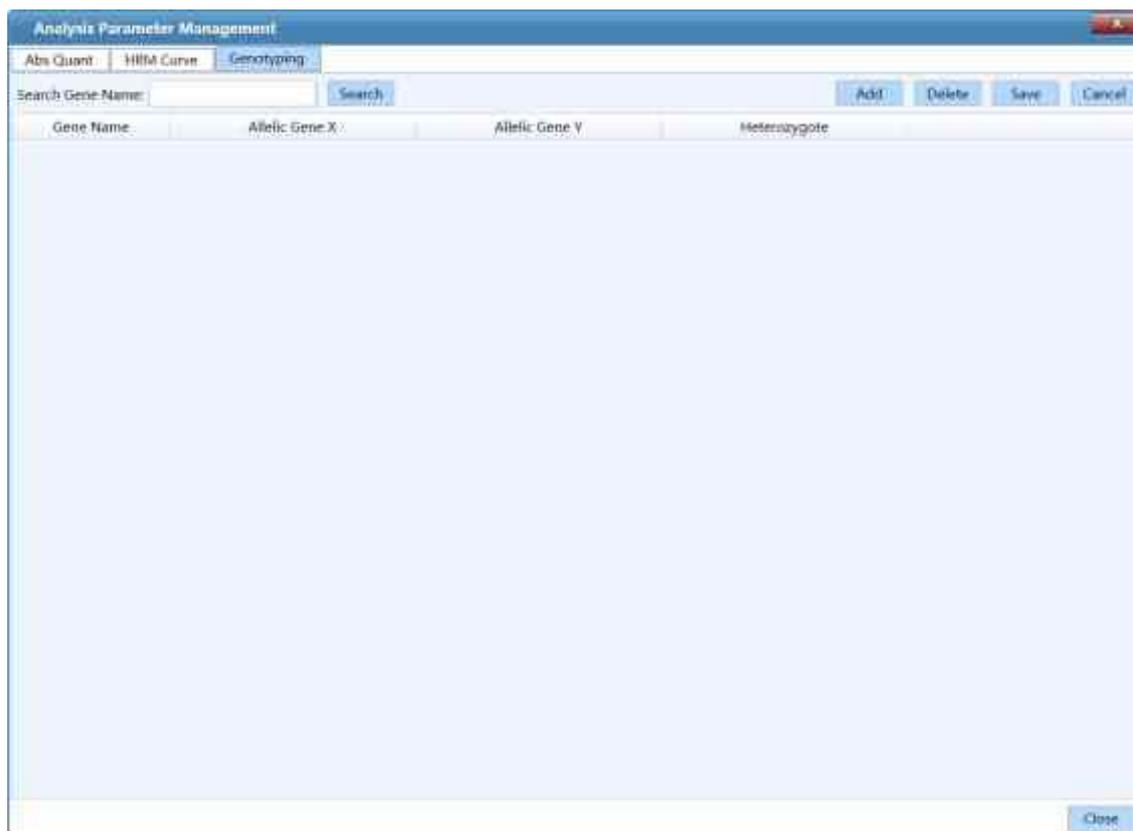

Figure D-2.8c Parameter Management interface – Genotyping Curve tab
- ▶ **Genotyping** tab: User can manage the analysis parameters of specific or multiple genes for genotyping experimental results analysis on the **Genotyping** tab, as shown in figure D-2.8c.